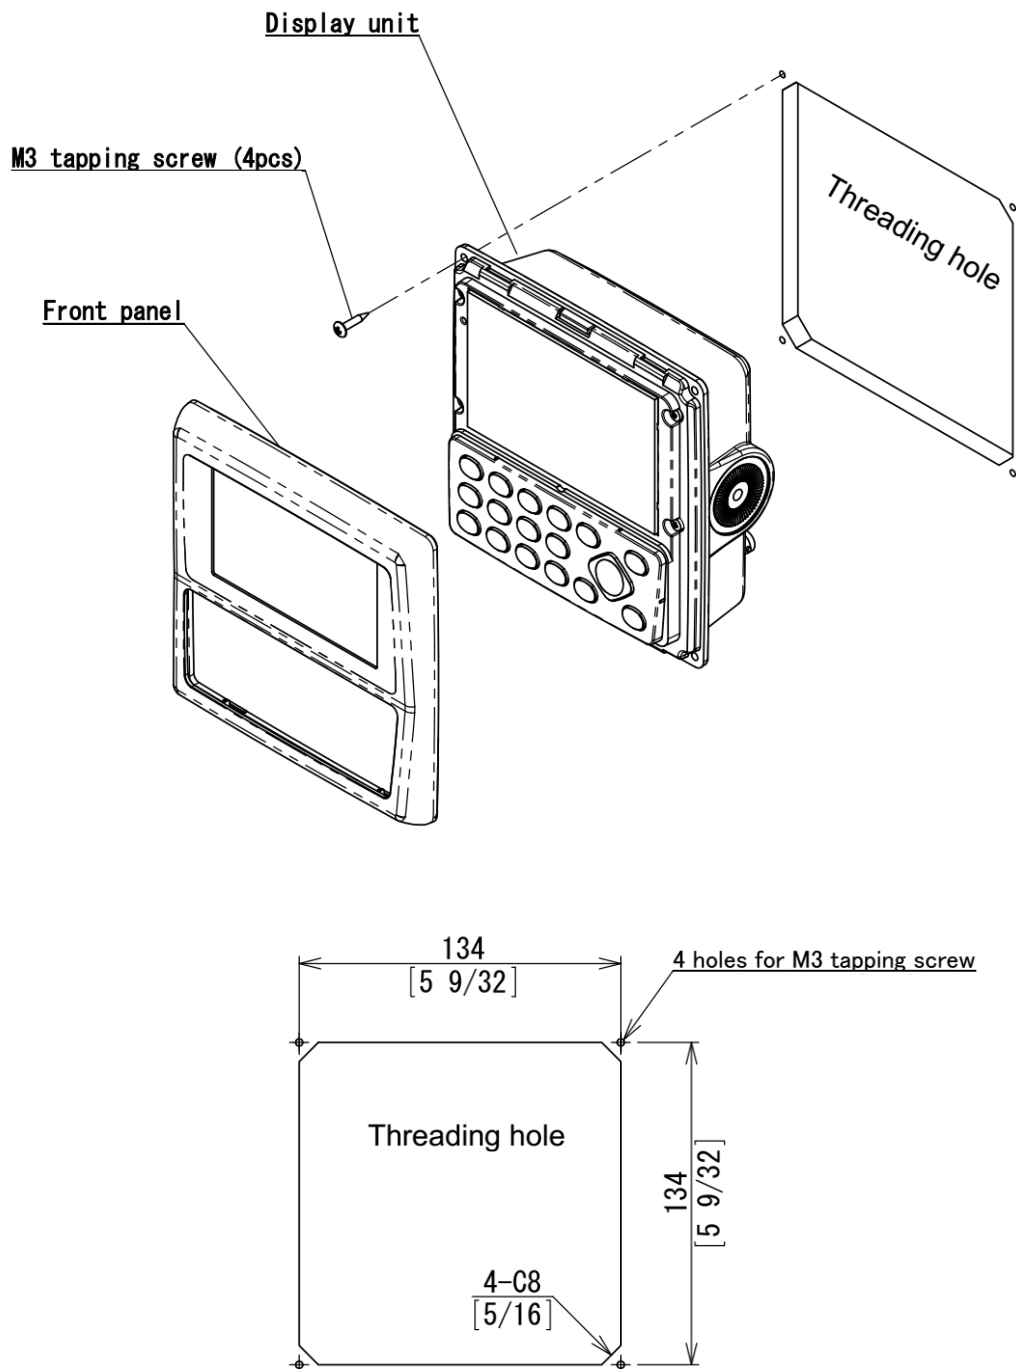

Figure 7.3 Flush Mount installation
- (1) Cut a rectangle opening as shown in a figure 7.3.
- (2) Loosen two fixing knobs that fasten the Display unit onto the mounting bracket.
- (3) Insert a coin in the two gaps at the lower part of the Display unit and remove the front frame.
- (4) Connect the connectors for power, antenna and others to the Display unit respectively.
- (5) Put the display on the opening and fix with four tapping screws. In case you use M3 screws to fix the display, select an appropriate screw length that best suits fixing the unit to the panel thickness.
- (6) Install the front frame removed in step (3).